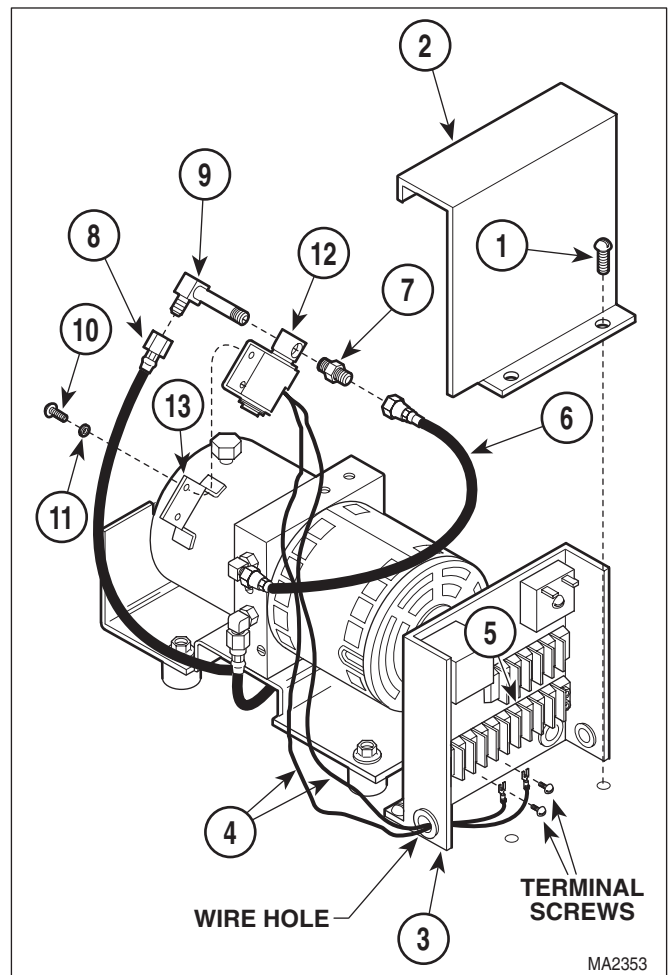

Figure 4-5. Anti-cavitation Solenoid Valve Removal / Installation
- (1) Unplug table power cord from outlet.
- (2) Remove motor cover assembly (Refer to para 4.2).
- (3) Remove two screws (1, Figure 4-5) and control cover (2) from control panel (3).
- (4) Loosen two terminal screws; then tag and disconnect anti-cavitation solenoid valve wires (4) from terminal block (5).
- (5) Pull anti-cavitation solenoid valve wires (4) out thru wire hole.
- (6) Disconnect hose assembly (6) from male connector (7).
- (7) Disconnect hose assembly (8) from male elbow (9).
- (8) Remove two screws (10), lockwashers (11), and anti-cavitation solenoid valve (12) from bracket (13).
- (9) Remove male connector (7) and male elbow (9) from anti-cavitation solenoid valve (12).